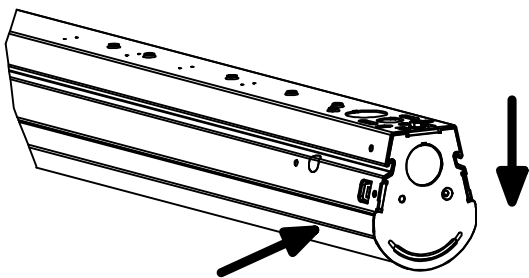
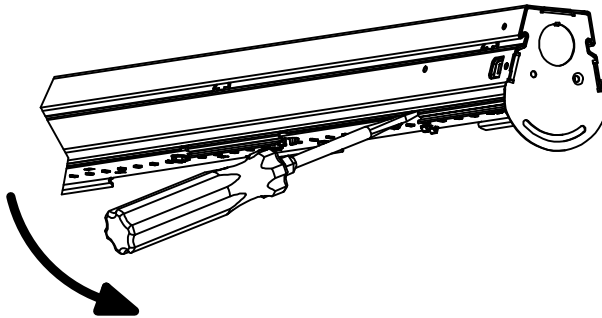

FIGURE 5: REMOVING LENS
FIGURE 6: REMOVING THE 4' LED BOARD
- E. For "continuous row mounting" refer to "CONNECTING LUMINAIRES FOR ROW MOUNTING": follow steps A, B and C above for each luminaire. A customer supplied chase nipple and lock nut should be inserted into the knockout hole on each end of the adjoining fixtures as shown in Fig 6.
To remove lens from housing, push side of lens until the opposite side of lens protrudes from housing. Then pull protruding lens downward until removed as shown in Figure 5. This should be applied down the length of the fixture. To remove the LED board, start on one end of housing using a flat head screw driver in the slots provided as shown in Figure 6. IMPORTANT: Make sure to apply a force parallel to board to reduce the risk of damaging the board.